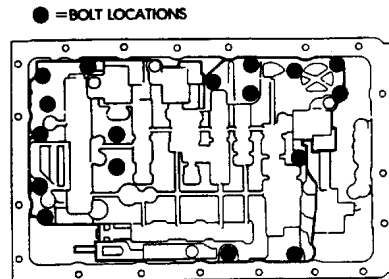

Fig. 14 Valve Body Bolt Locations
- (6) Remove valve body bolts. Locations for seventeen bolts are outlined in Figure 14.
- (5) Install valve body bolts (Fig. 14). Tighten bolts evenly to 10 N•m (7 ft-lbs) torque.